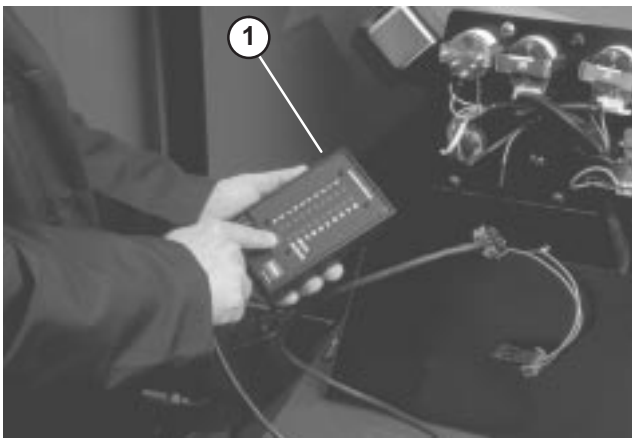

Figure 38
3. Connect the Diagnostic ACE display connector to the harness connector (Fig. 38). Make sure correct overlay decal is positioned on Diagnostic ACE display.